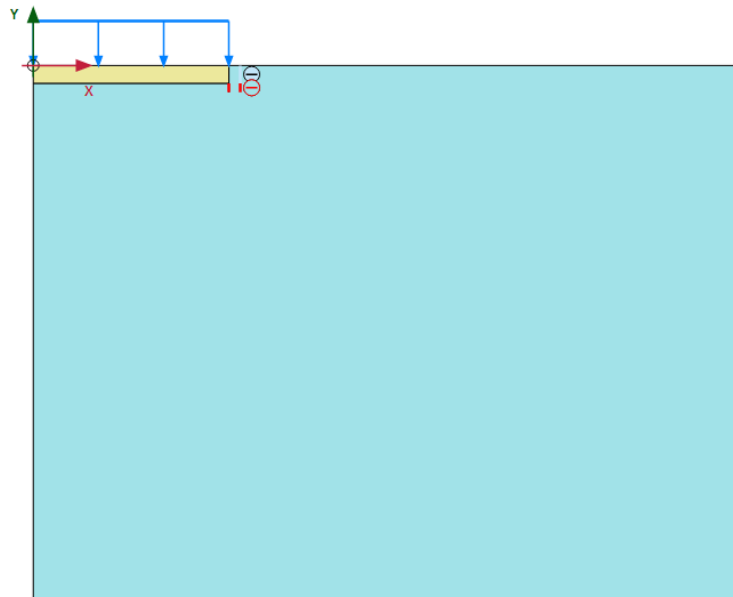

Figure 146: Geometry of the model
1. Click **Create interface** to create the upper part from (11.0, -1.0) to (11.0, 0.0), Figure 146 (on page 169).
2. Click **Create interface** to create the lower part (between foundation and soil) from (11.0, -1.5) to (11.0, -1.0), Figure 146 (on page 169).
5. For the interface material extended into the soil, full soil strength is applied ($R_{inter} = 1.0$), as implicitly defined in the original clay material **Clay - total load**. Keep the default setting **Material mode**: From adjacent soil. The geometry of the model is shown in Figure 146 (on page 169):